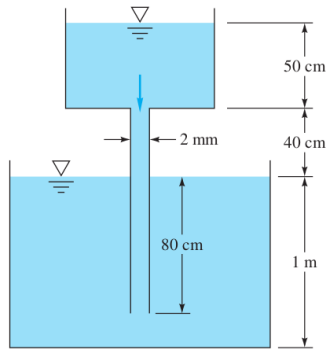

Fig. 6.4
- 6.4 For the configuration shown in Fig. 6.4, the fluid is ethyl alcohol at 20°C , and the tanks are very wide. Find the flow rate which occurs in m^3/h . Is the flow laminar?